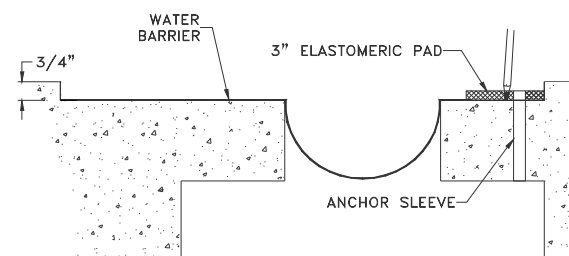

Figure 7
**STEP 15.** Put the pad into its installed position. Ensure that the pad is properly aligned. Using the pad as a template, mark the locations for the fastener holes on the substrate (water barrier or fire barrier retainer), (see Figure 7). Remove the pad from its installed position, and drill the fastener holes into the concrete at the marked locations.